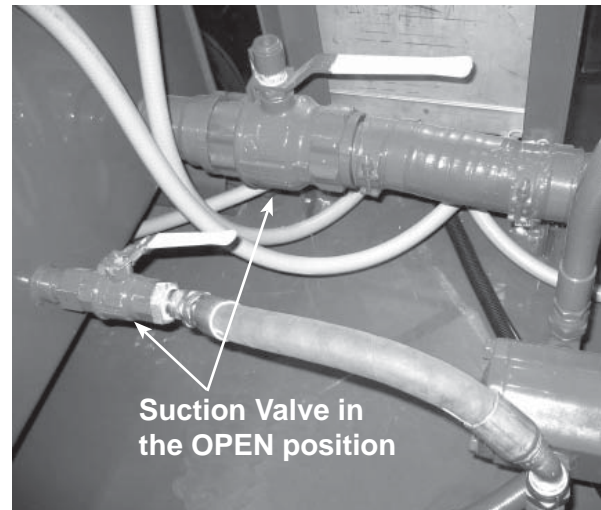

Figure 17 - Suction Valve
2. Make sure reservoir is filled with oil, pump is primed and verify that the suction valve is locked in the open position. (see Figure 17)